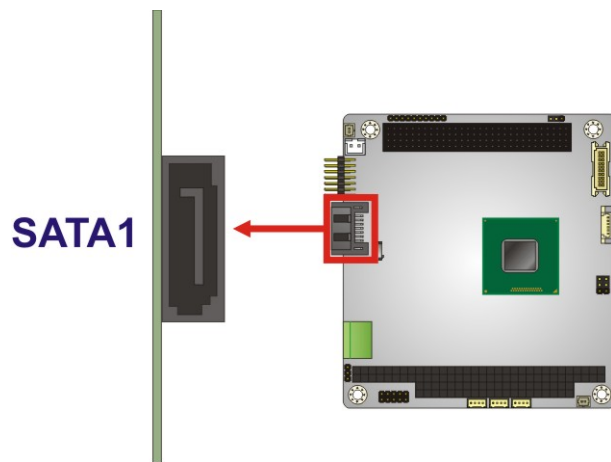

Figure 3-19: SATA 3Gb/s Drive Connector Location
- CN Location:** See **Figure 3-19**